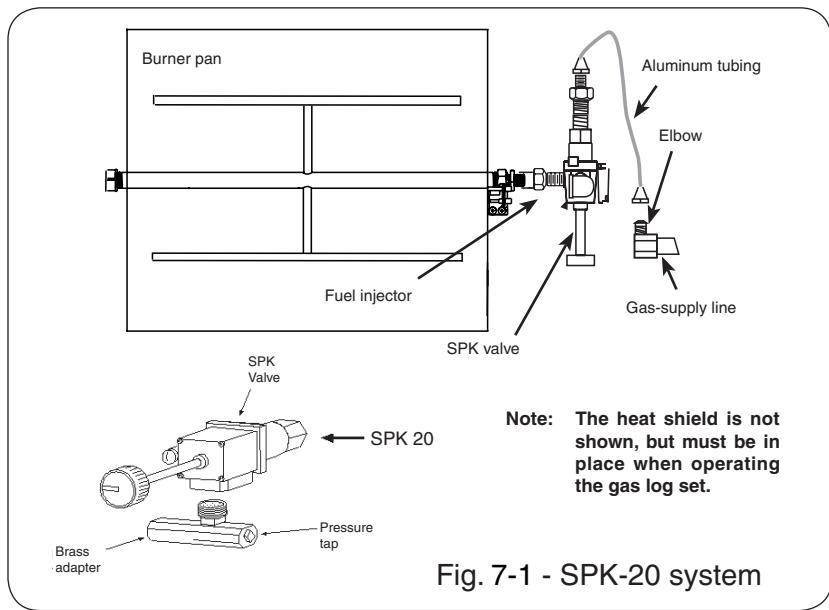
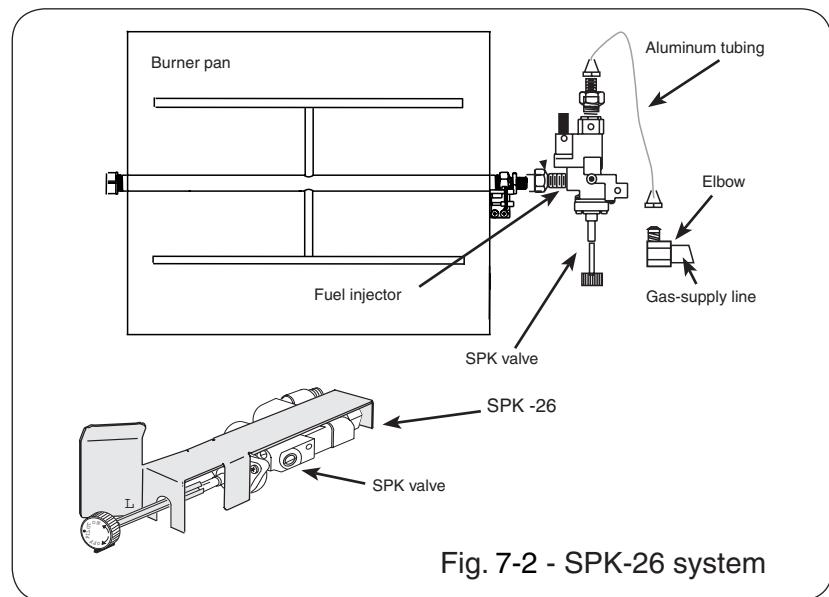

Fig. 7-1 - SPK-20 system
Fig. 7-2 - SPK-26 system
3. Installing the Real-Fyre® gas log set using a Peterson manual safety pilot system (SPK series) (Fig. 7-1 & Fig. 7-2)